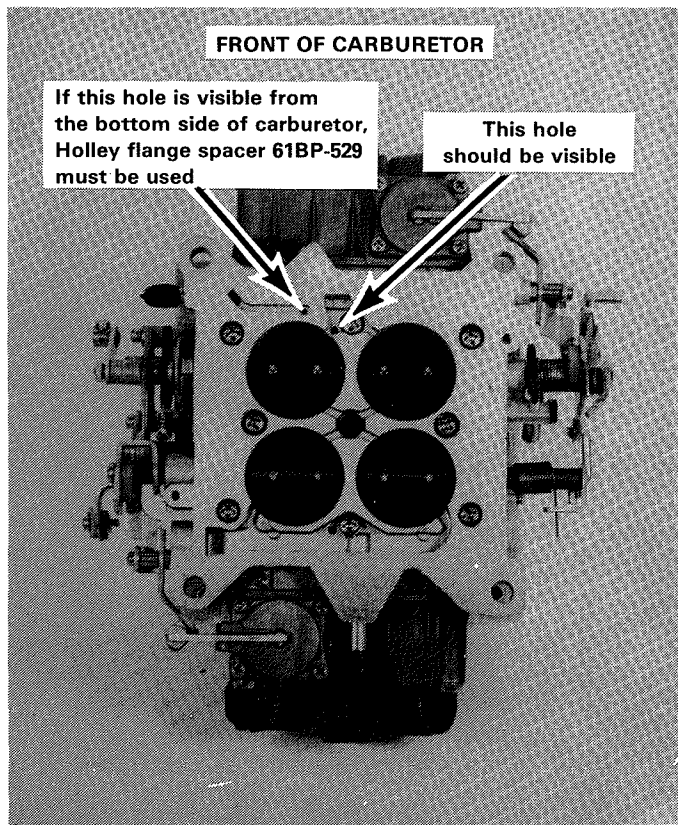

Fig. 5
25. Install studs in manifold flange, and lay carburetor gasket in place. If carburetor to be used has a "timed spark" hole visible from the bottom of the carburetor, use flange spacer, Holley Part No. 61BP-529. See Figure 5.